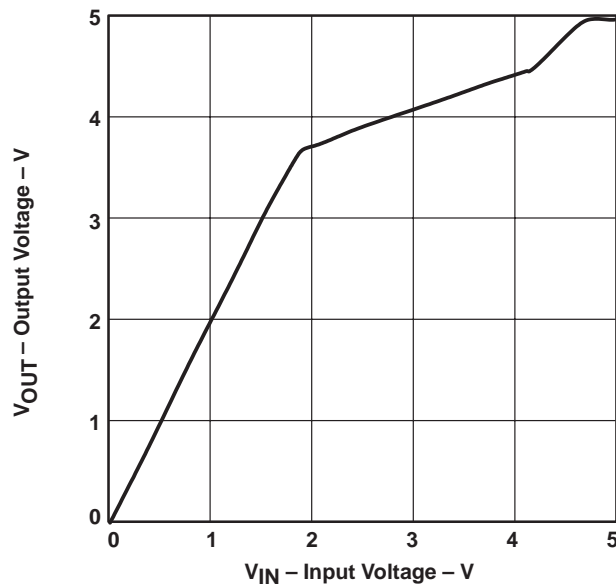

Figure 2. Output Voltage Variation vs Input Voltage Variation
- The output voltage variation versus the input voltage variation has a gain of $1/3$ for an output voltage range of about 3.6 V to 4.5 V. This gain is increased to approximately 1 for output voltages above 4.5 V. This is illustrated in Figure 2. The output, V_{OUT} , will not be saturated even if the input voltage goes up to about 4.7 V.